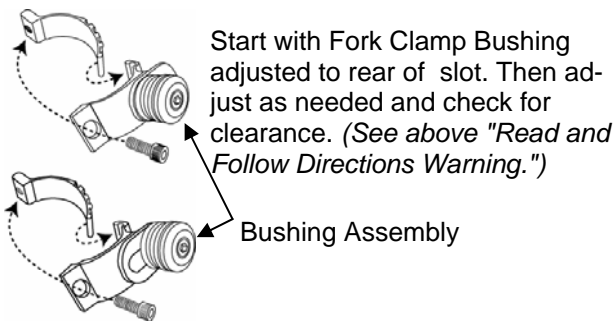

Fig. 4
5. Slip the windshield mounting plates and windshield onto the fork clamps, (Fig 4 and 5) and secure the left and right side locking mechanism.